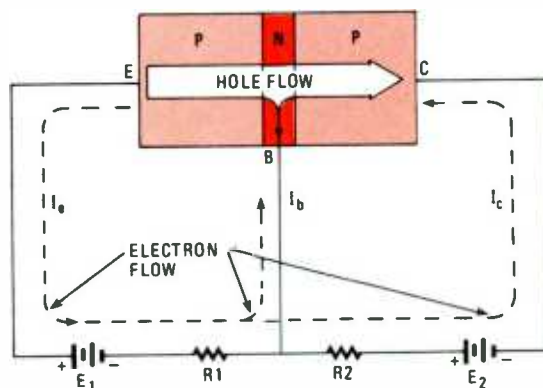

Fig. 16—This is how electrons and holes flow in a correctly-biased PNP transistor.
33. (emitter, collector) Now let's examine the operation of a PNP transistor. The current flow in a properly biased PNP transistor is as shown in Fig. 16. Remember that the current flow inside a PNP transistor is holes. But in the external circuit the current is electron flow, as indicated by the dashed lines.